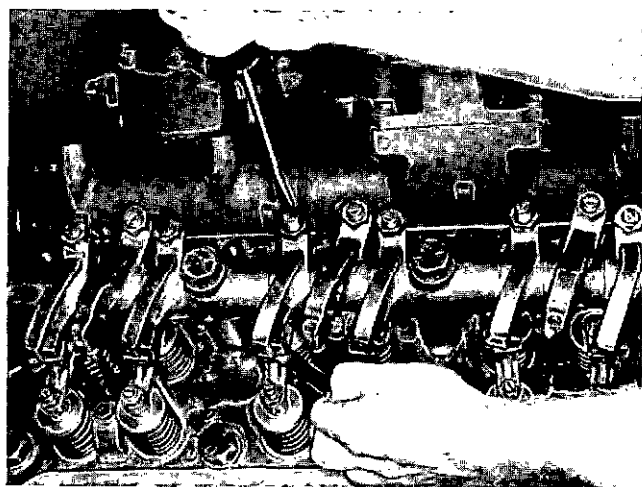

Fig. 2-42 (V51492) Adjusting valves
1. Loosen locknut and back off adjusting screw. Insert feeler gauge between rocker lever and top of crosshead. Valve clearances are: Intake 0.012 inch [0.30 mm], Exhaust 0.022 inch [0.56 mm]. Turn screw down until lever just touches gauge and lock adjusting screw in this position with locknut. Fig. 2-42. Torque locknut to values indicated in Table 2-7.